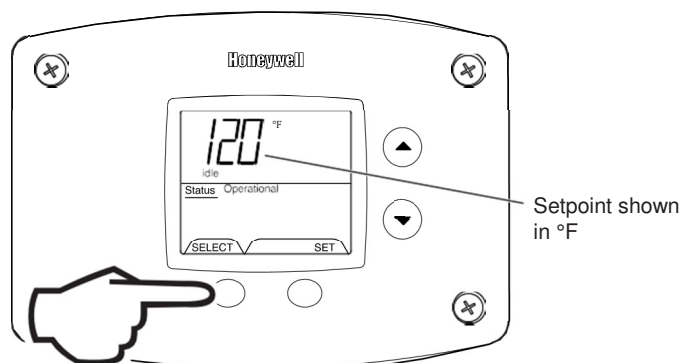

Fig. 59
5. Pressing 'Select' button will return display to setpoint in format selected (°F or °C) immediately (Fig. 59).